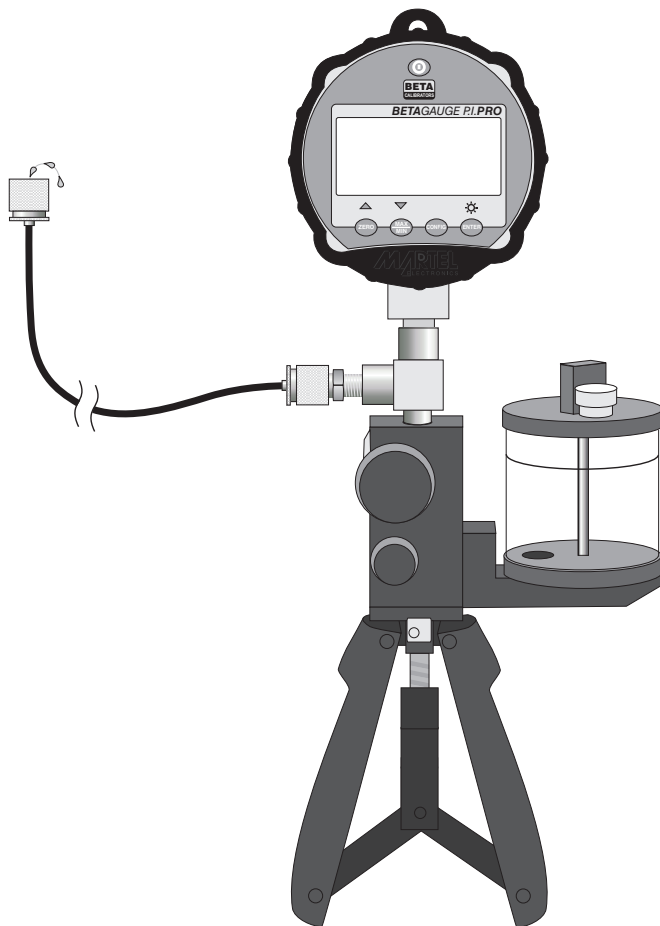

Figure 1.
5. Push the stroke limiter into the prime mode to allow the handles to have maximum travel. With the hose to the device under test open to air squeeze the handles to begin the priming process. (See figure 1). NOTE: This can take many strokes of the pump depending on the volume of the system and if the pump has not been used for a while. It is important to use the full stroke of the handles to make sure a full charge of hydraulic fluid is pulled from the reservoir with each stroke.